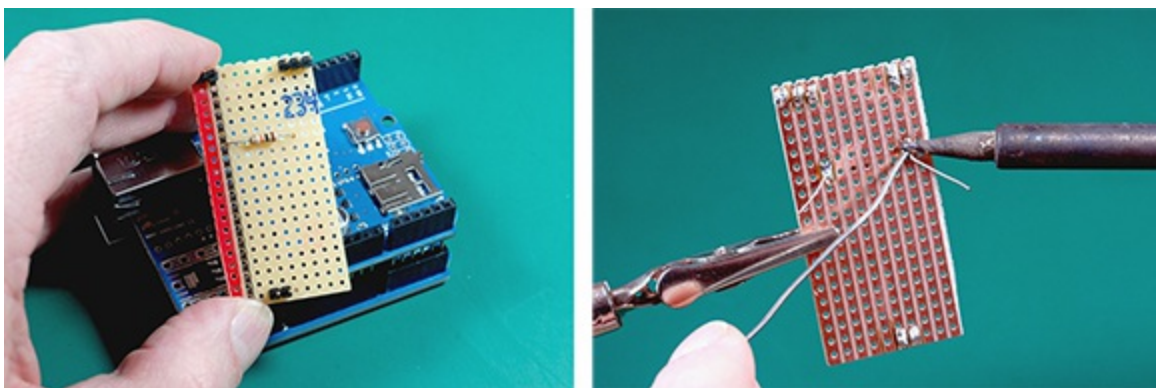

Figure 12-13: Adding the resistor to your sensor shield.
One edge of the board now has five pins soldered to it. With those pins at the top, insert the legs of your resistor through the non-copper side of the stripboard. The legs should be in the second and eighth copper strips, as shown in Figure 12-13. It doesn't really matter what row you place the resistor in. Any row will do, but you need to leave room for your sensor wires.
7. Bend the resistor's legs slightly to hold it in place. Then, flip the board over and solder your resistor onto the copper strips, as shown in Figure 12-13.